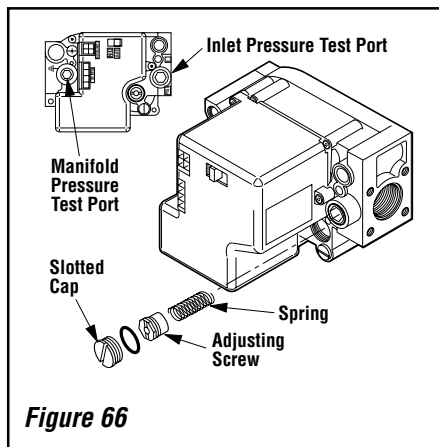

Figure 66
**Step 7. Honeywell Electronic Valves** - See **Figure 66** and the instructions provided with the kit. Remove the slotted cap screw, o-ring, pressure-regulating adjusting screw and spring. Retain all parts for possible later use. Install new components from the kit. Black cap and red spring for propane gas units. Silver cap and stainless steel spring for natural gas units. Before installing the cap, attach manometer to the manifold side pressure test fitting and adjust screw until pressure reads 3.5 inches water column (0.87 kPa) for natural gas, and 10.0 inches water column (2.49 kPa) for propane gas.